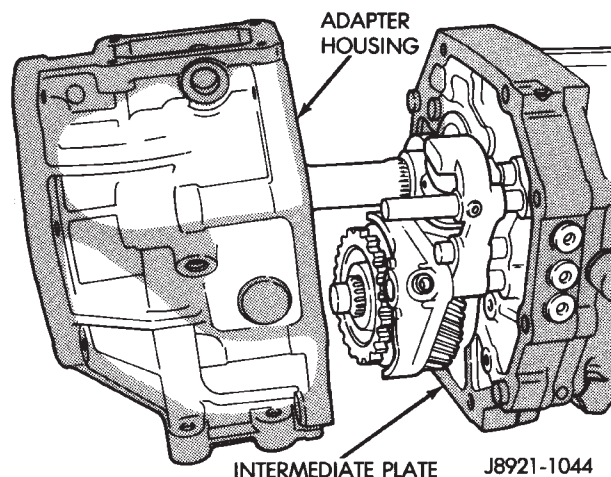

Fig. 119 Adapter/Extension Housing Installation
(16) Align and install adapter or extension housing on intermediate plate (Fig. 119). Be sure housing is seated on intermediate plate dowel pins.
(17) Coat threads of housing attaching bolts with silicone sealer. Then install and tighten bolts to 37 N·m (27 ft. lbs.) torque.